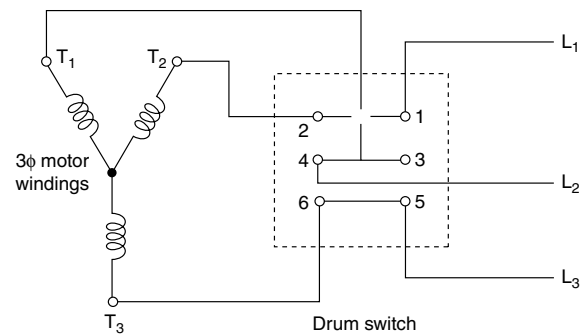

Fig. P-1
1. Using Fig. P-1, draw lines to complete the circuit between the switch terminals to cause the three-phase motor to run in the *forward* direction.